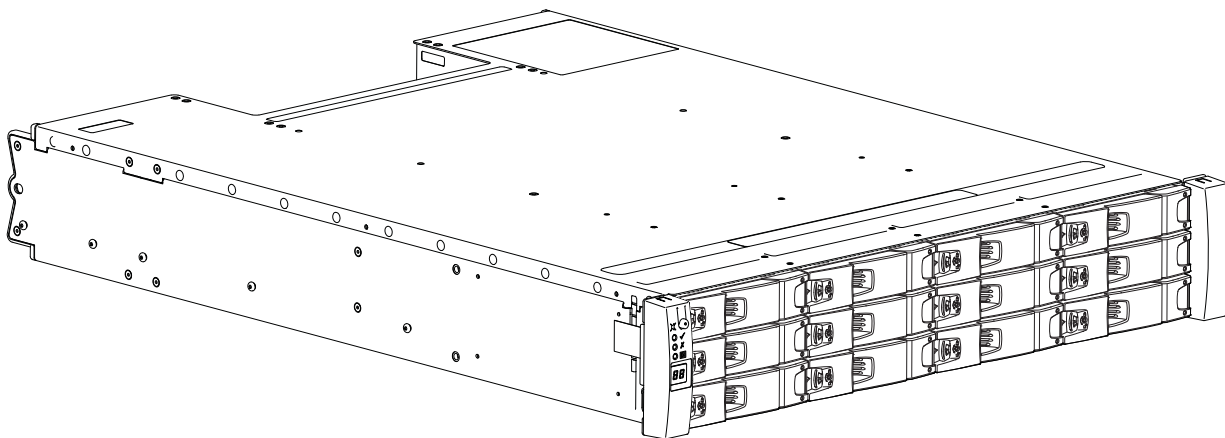
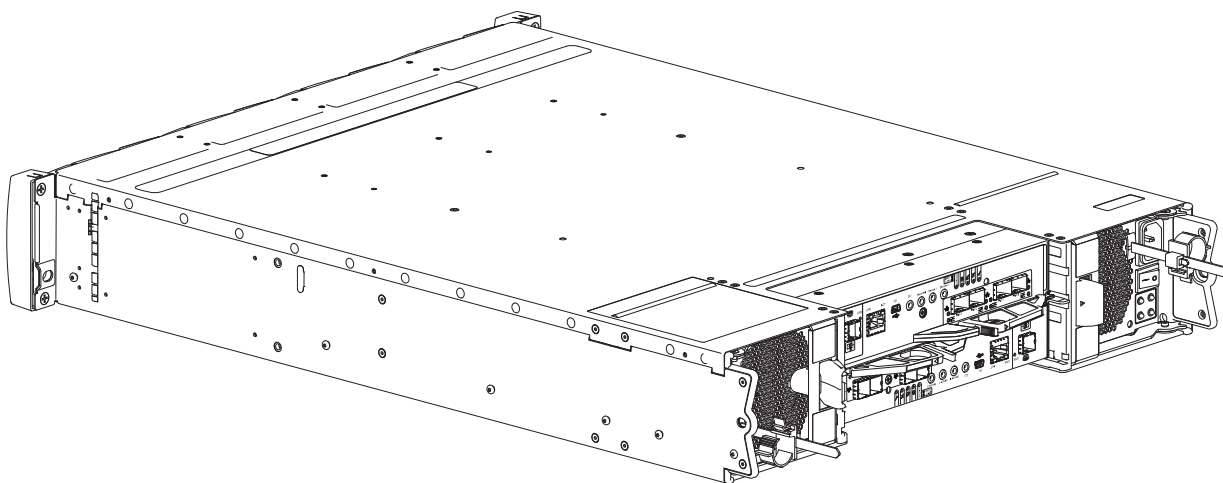

Figure 1 2U12 enclosure system – dimetric front orientation
Figure 2 2U12 enclosure system – dimetric rear orientation
- 2U (rack space) controller enclosure – see Figure 1 \(page 20\) and Figure 2 \(page 20\): holds up to 12 low profile (1-inch high) 3.5" form factor disk drive modules in a horizontal orientation.